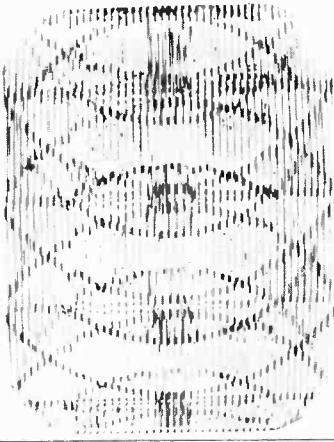

Figure 6—INCORRECT HORIZONTAL HOLD
6. If the picture is not steady, the "Hold" controls will require slight readjustment. If the picture is moving sideways the Horizontal Hold (inner section of the knob) requires readjustment. If the picture is moving up or down or is off position, then the outer ring "O" of the knob, Vertical Hold Control, requires readjustment. See Figures 6 and 7.
Horizontal and Vertical Hold Controls.—The dual knob at the back of the panel on the right controls the picture stability. The inner section designated by a "U" is the Horizontal Hold Control and when being set should be turned slowly to the point at which the picture "locks in" horizontally. Figure 6 shows the effect of incorrect setting of the control. The outer ring section designated by "O" is the Vertical Hold Control and when being set should be turned to the point where the picture "locks in" vertically. See Figure 7.